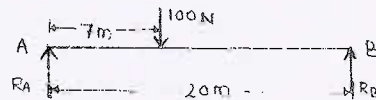

Fig.Q.9(b)
- b. Determine the reaction R_A by using ILD (influence line diagram) for beam loaded as shown in Fig.Q.9(b). (10 Marks)